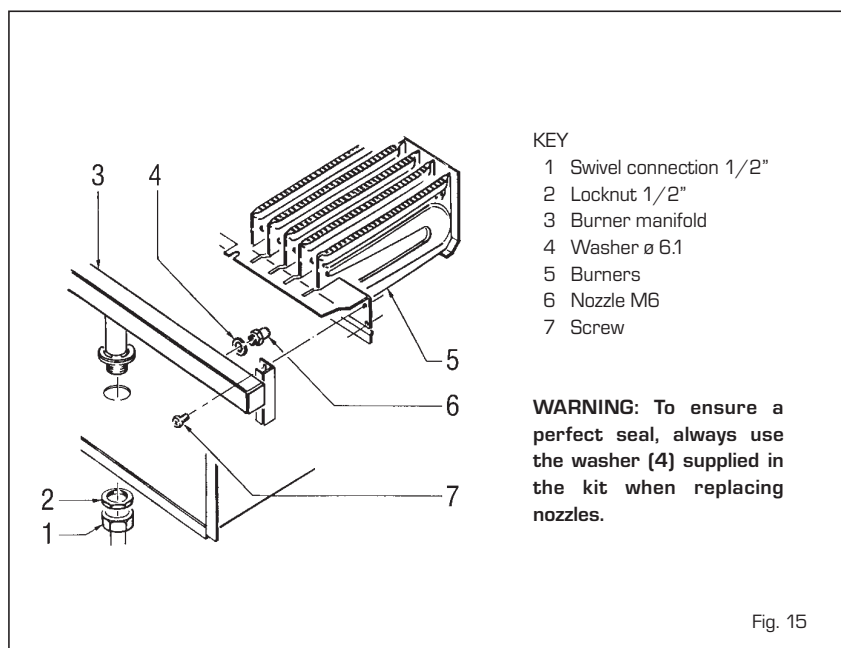

Fig. 15
4.2 GAS CONVERSION (fig. 15)
To convert, perform the following operations (fig. 15):